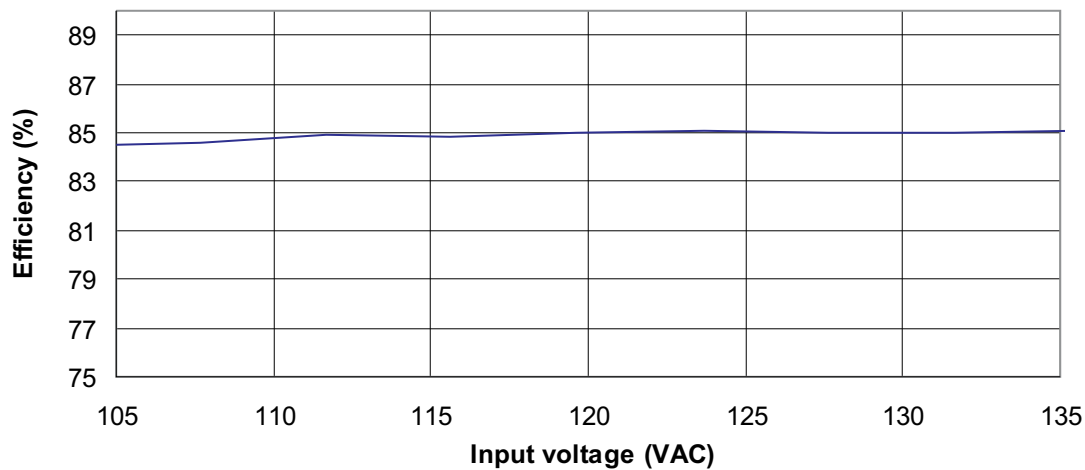
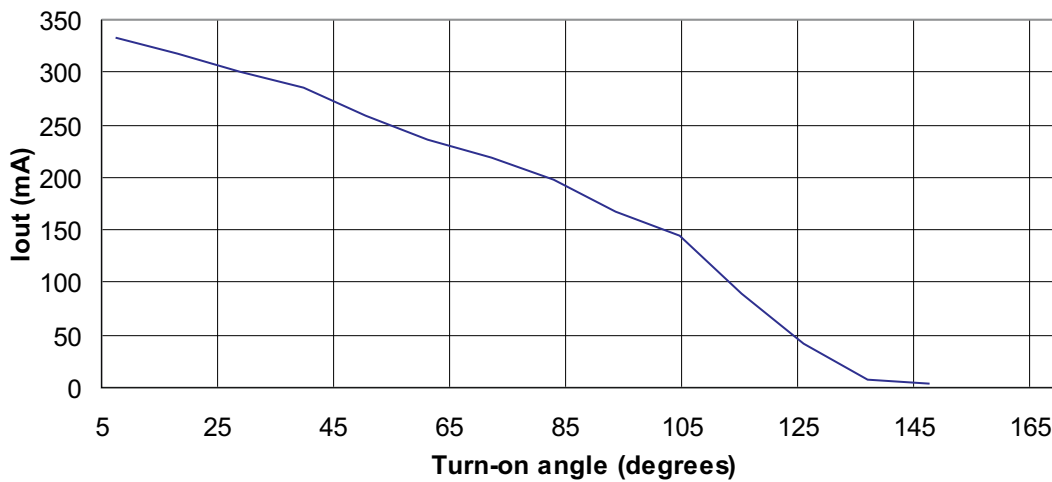
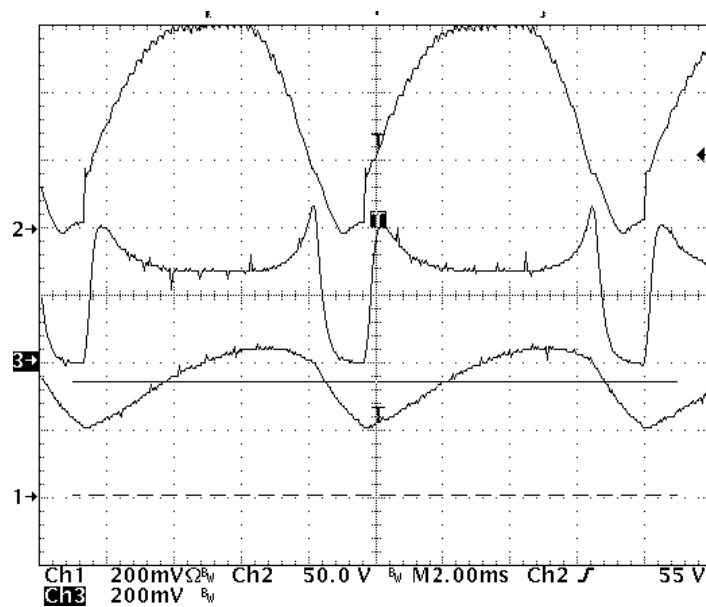

Figure 3. Efficiency
Figure 6. Output Current variation (with respect to input voltage phase)
Figure 28. LED Current vs. Triac Conduction Time (Ch1- LED current Ch2- bulk voltage Ch3- U2-1 voltage waveform)
Figure 3 through Figure 28 present typical performance curves for TPS92001EVM-628.
2. Figure 6 through Figure 28 input set to 120 V_{AC} nominal.